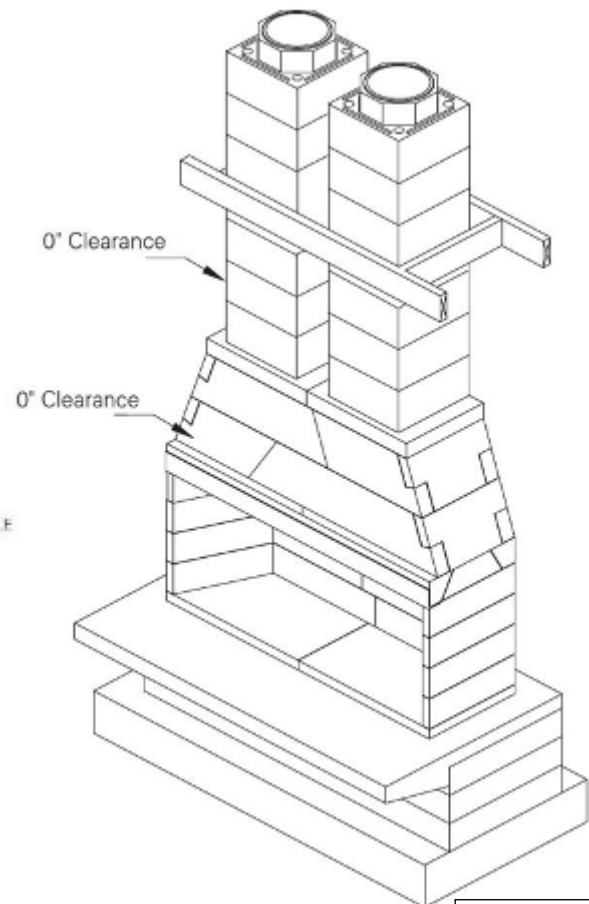

FIGURE 2
- The MAGNUM 60/72 series firebox’s smoke dome front wall requires 0” clearance. **(Figure 2)**
- DM54 Outer Casing component requires 0” clearance. **(Figure 2)**